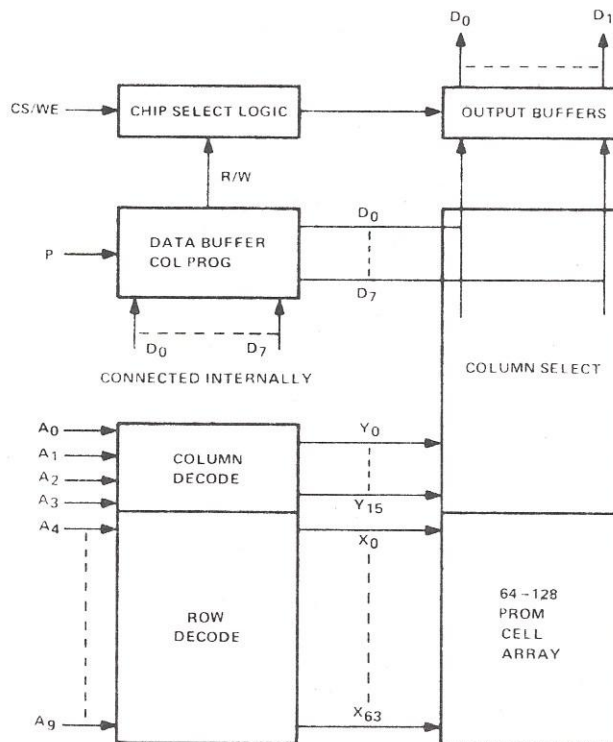

Fig. A-1 2708-type EPROM
The 2708-type (Figure A-1) is an ultra-violet (UV) light erasable, field programmable read-only memory (PROM or EPROM) that can be used for non-volatile storage of up to 1024 (1K) 8-bit bytes of programs and/or data. The EPROM is packaged in a standard 24-pin package and includes a transparent quartz cover over the integrated circuit chip. By exposing the chip to 2537Å UV light for approximately 10 to 30 minutes, stored data can be erased. The PROM can then be reprogrammed (loaded) with new contents.